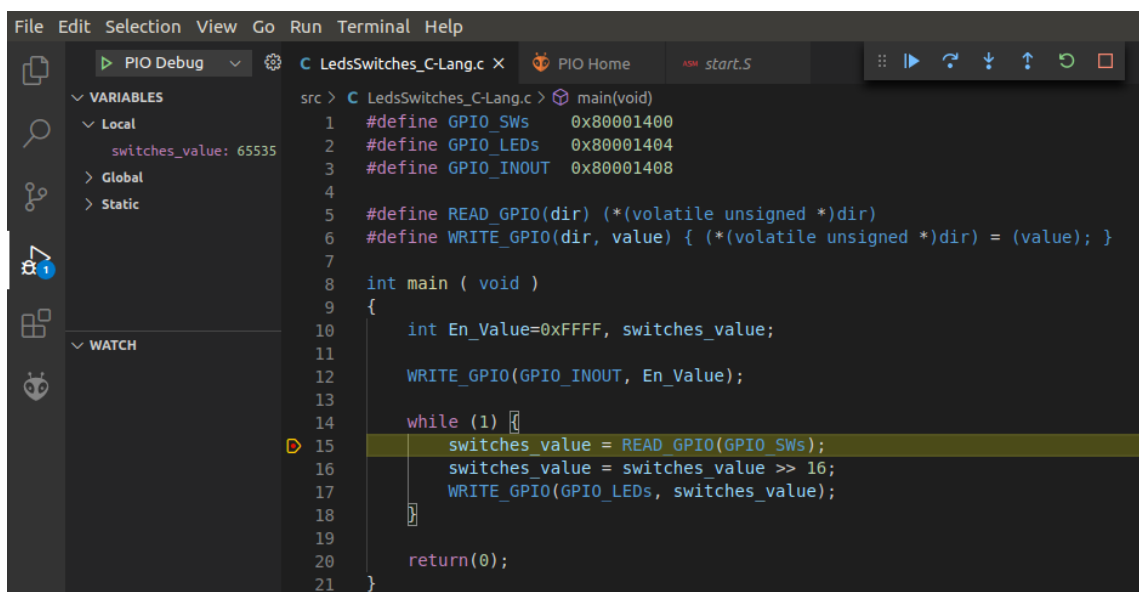

Figure 63. Execution stopped at the breakpoint
4. Then, start debugging. The program will start executing and will stop at the breakpoint (Figure 63).